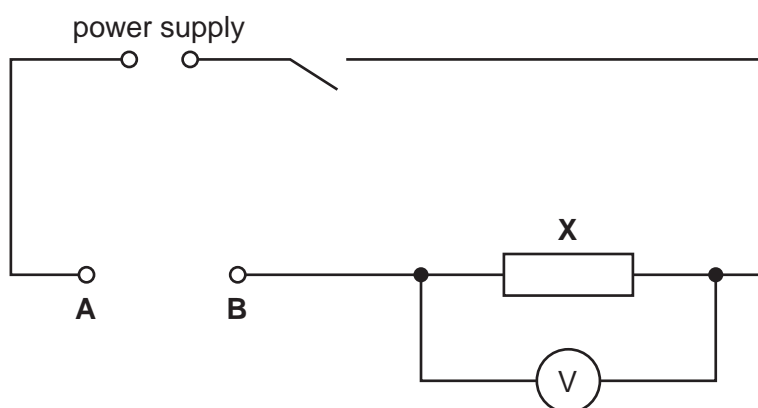

Fig. 3.1
1. The circuit is to be set up for the candidates as shown in Fig. 3.1 with the additional leads within easy reach. The terminals **A** and **B** must be clearly labelled.
Reconnect the circuit as shown in Fig. 3.1.